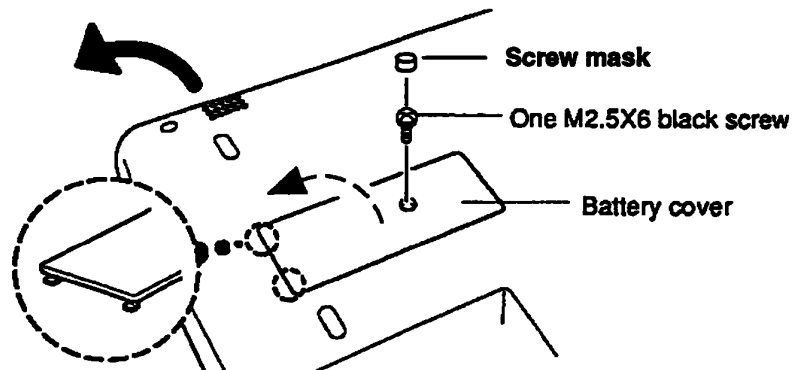

Figure 4-9 Removing the Backup Battery and RTC Battery Cover
To remove the T100X's backup battery and RTC battery, follow the steps below and refer to Figures 4-9 and 4-10.
3. Remove the **screw mask** and **M2.5x6 black screw** from the **battery cover**, then tilt the computer upwards to allow the battery cover to fall away from the computer (Figure 4-9).
NOTE: *The battery cover is held in place by one screw and two latches. Be careful to tilt the computer as indicated in Figure 4-9 when removing the cover. When you seat it, engage the latches first, then rotate the battery cover into place.*
To install the T100X's backup battery and RTC battery, follow the steps below and refer to Figures 4-9 and 4-10.
4. Replace the cover and secure it with an **M2.5x6 black screw** (Figure 4-9).
5. Replace the **screw mask** (Figure 4-9).